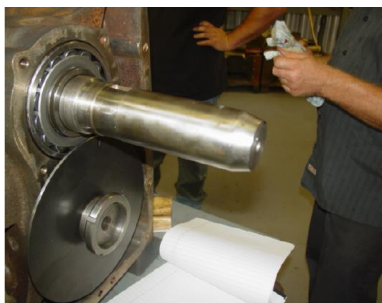

Figure 7-13 – DRIVE-END SUMP COVER INSTALLATION
63. Install shaft seal (37). Verify shaft seal bore in drive-end sump cover (4) is clean, dry, and free of nicks or burrs. Lay cover flat with external surface facing up. Support area under seal bore with a block of wood. Position shaft seal with flat side of seal casing facing outward and cupped side inward. Using tool EQ144211-1, drive shaft seal into sump cover until flat side of seal casing is flush with external surface. Apply AEON PD oil to both lips of shaft seal.
64. Slide protective sleeve EQ144211-7 over drive shaft. Apply AEON PD oil to outside surface of sleeve. Gently slide drive-end sump cover over drive shaft. Reference Figure 7-13